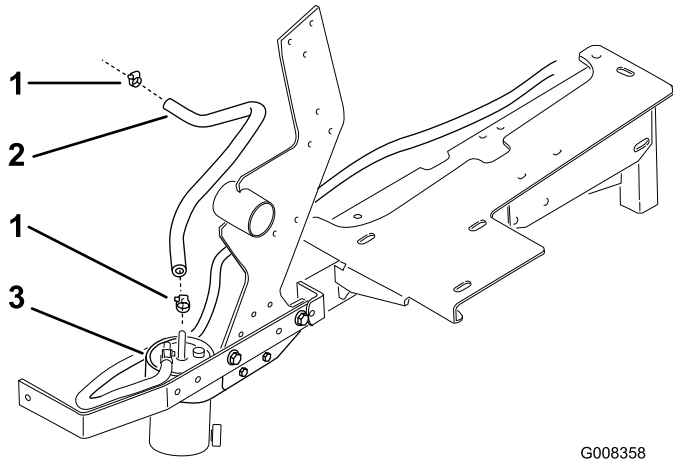

Figure 5
- Install the new fuel hose to the water separator and to the engine fuel connection with 2 hose clamps (Figure 5). The connection to the engine is the same position as the fuel hose that was previously removed.